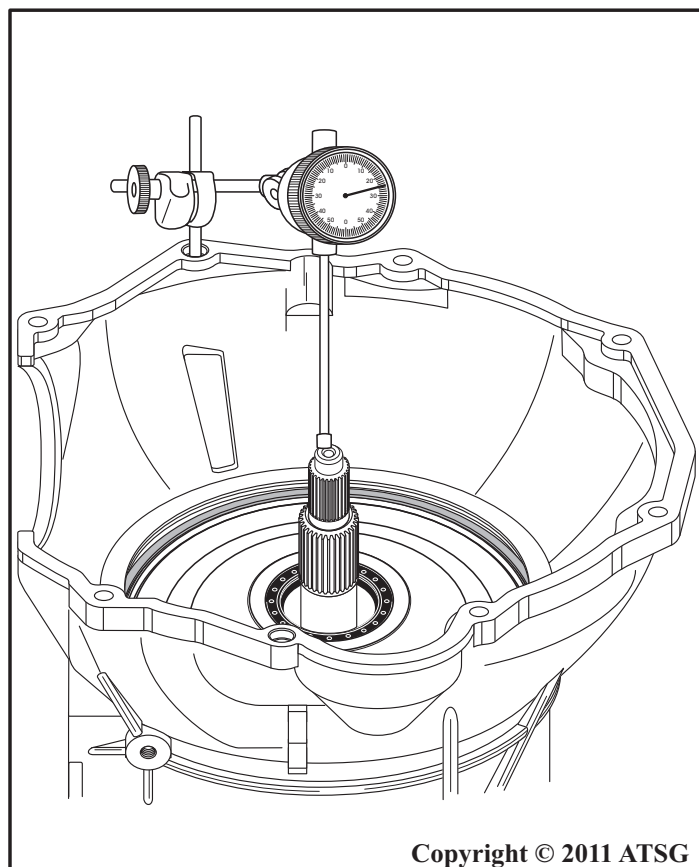

Figure 36
8. Using a dial indicator, measure and record the input shaft end-play reading, as shown in Figure 36, for re-assembly reference.